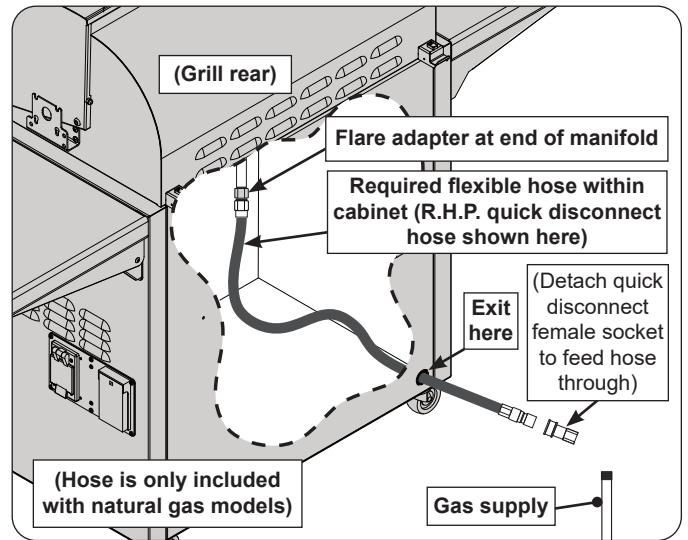

Fig. 23-1 Flexible hose assembly detail
2. **Household propane only:** A regulator hose assembly designed for L.P. cylinders comes pre-installed to the unit valve manifold. First remove this assembly from the flare adapter (at end of manifold), and then install a quick disconnect hose or similar (purchased separately) to the adapter. (An R.H.P. quick disconnect hose is recommended - see third bullet above.) Use a pipe joint compound resistant to all gasses on all NPT pipe fittings except flare fittings. Reference Fig. 23-1. Then proceed to step 3.
3. Route the quick disconnect hose (or similar) out of the hole in the rear bottom right of the cabinet, and to the gas supply (see Fig. 23-1).